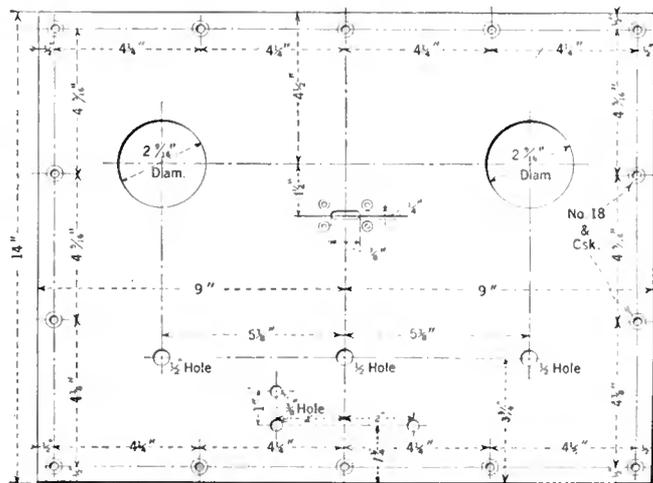

FIG. 12
- (2) Lay out and drill the main panel in accordance with Fig. 12.
- (3) Mount the various instruments on the panel and then fasten it to the wooden frame.
- (4) Remove the shelf from the frame and mount the various instruments as shown in the illustrations.
- (5) On the floor of the frame mount the batteries, choke, and modulation transformer.
- (6) Drill $\frac{3}{16}$ " holes through the shelf at the points where connections are to be made to the tuning condensers.
- (7) Run long bus bar connections from the terminals of the three tuning condensers to points tallying with the position of the holes previously made in the shelf.
- (8) Mount the shelf in place, passing the wires from the condensers through the holes in the shelf.
- (9) Complete the connection of these wires to the coils.
(10) Wire the rest of the transmitter using No. 18 lamp cord for the power and filament leads and bus bar for the "hot" connections—i.e., grid and plate leads.